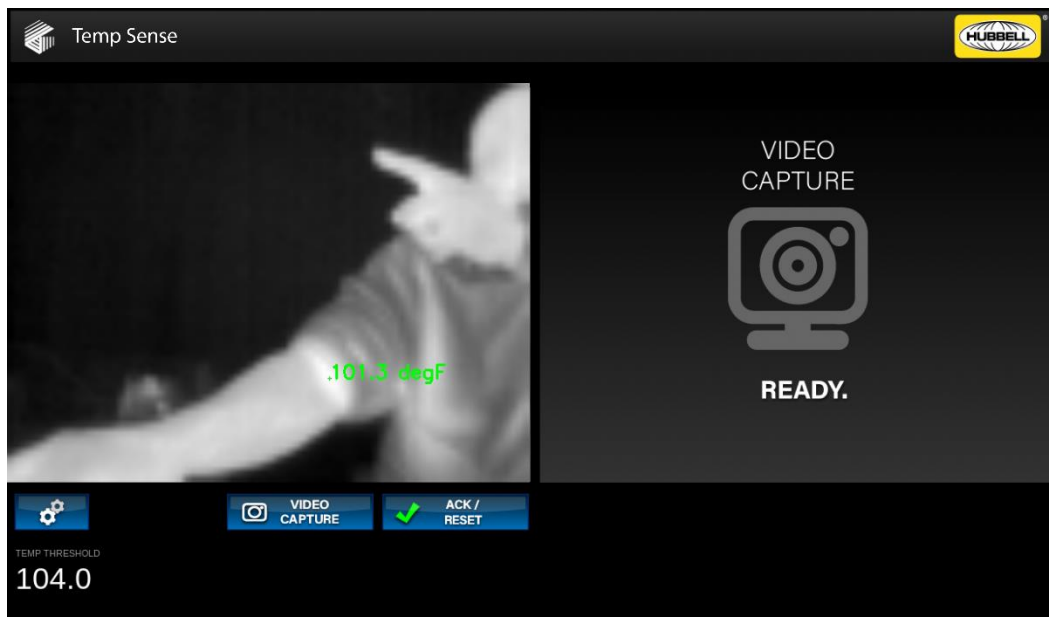

Figure 9. Temperature Superposition and Calibration
3. Slide the OFFSET slider to adjust the on-screen temperature until it displays the known temperature (see Figure 9).
- The TS100 superimposes the temperature of the hottest item in the FOV in the IR view (see Figure 9).